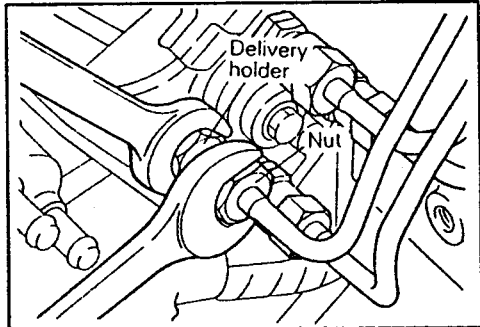
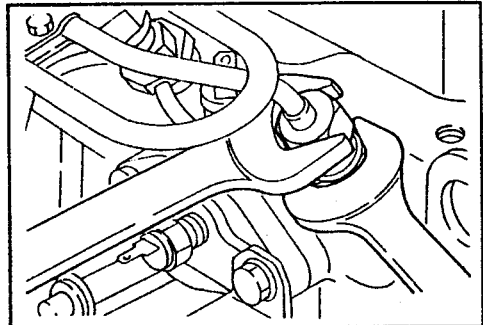
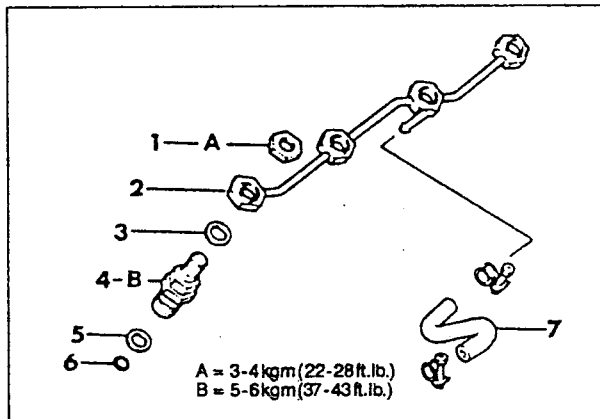
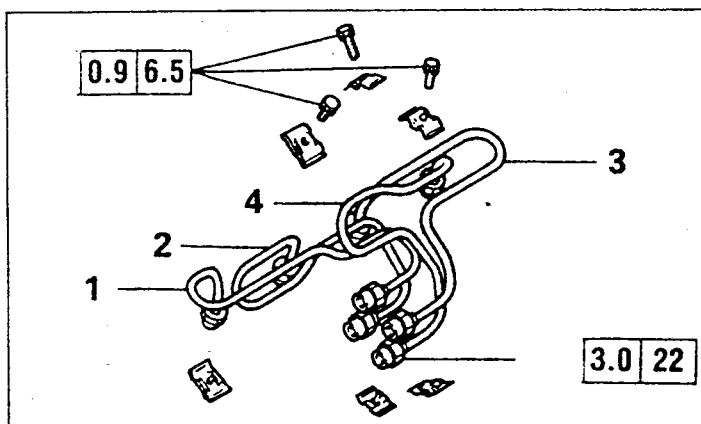

Fig. 15.35. — Slacken the injection pipes on the injection pump by means of two open-ended spanners.
Fig. 15.36. — Slacken the injector pipe union nuts on the injector jets with two open-ended spanners as shown.
Fig. 15.43. — Removal and installation details for the injectors. The letters refer to the tightening torques.
Fig. 15.44. — Removal and installation details for the injection pipes. The numbers refer to the injection pipe (cylinder) numbers.
- Disconnect the union nuts connecting the injector pipes to the injectors and the injection pump. When slackening the pipes at the pump ends, counterhold the delivery valve holder on the injection pump head with an open-ended spanner to prevent the valve holders from rotating, as shown in Fig. 15.35. Fig. 15.36 shows how the other ends of the injection pipes are slackened. Mark the pipes before removing them.
- Disconnect the wiring harness for the injection pump (8), unscrew the cable harness (1 bolt) and push the harness to one side. From the rear withdraw the connector plug (9) and if fitted, the plug (10).
- Unscrew the pump support bracket (11).
- Remove the nut and spring washer securing the injection pump sprocket (12). Take
The installation of the pump is a reversal of the removal procedure. Follow the tightening torques given in Fig. 15.34. Make sure that the marks on the injection pump and bracket are as marked before removal. Adjust the timing belt tension as described in the relevant section. When tightening the fuel injection pipes use two spanners, as shown in Figs. 15.35 or 15.36. The same applies when the fuel return pipe connection is tightened.
- Fit the injection pipes with the union nuts and tighten the nuts with two open-ended spanners, as shown in Fig. 15.35. The torque must be estimated not to exceed 3.0 kgm (22 ft.lb.). Use well fitting spanners. An ordinary torque wrench cannot be used to tighten the union nuts.
Refer to Fig. 15.43 for details of the parts to be removed. Disconnect the fuel return hose after opening the two clamps. Unscrew the fuel return pipe securing nut. Counterhold the hexagon of the return pipe connection with an open-ended spanner, similar as shown in Fig. 15.35, to prevent it from rotating with the nut.
Fig. 15.44 shows the set of injection pipes together with their attachment parts and tightening torques. Always hold the connector of the respective connection when a pipe is slackened or tightened. Use two open-ended spanners as shown in Figs. 15.35 and 15.36. The fuel system must be bled of air as described in Section 15.7.1 after a pipe has been disconnected.